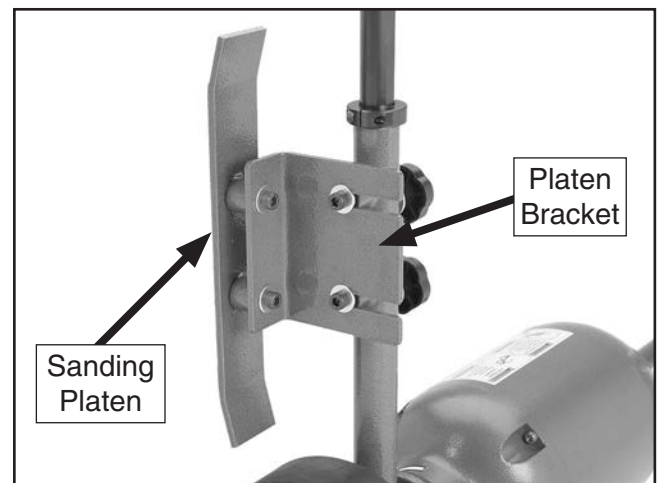

Figure 15. Sanding platen and bracket installed.
- Install the platen bracket onto the pivot arm with the pre-installed hardware, as shown in **Figure 15**.
- Install the sanding platen onto the platen bracket with the pre-installed hardware, as shown in **Figure 15**.